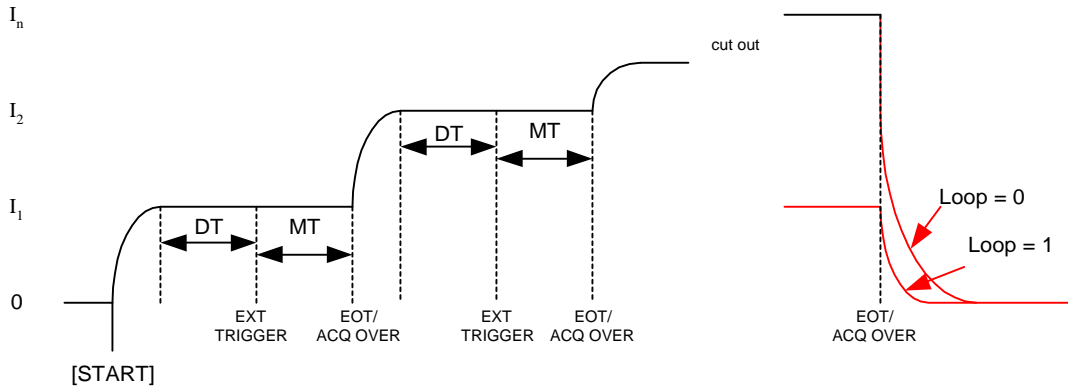

Figure 2-5: Multi-Point Auto Current Output Mode
Figure 2-5 illustrates the Multi-Point Auto Current Mode. Set a longer Delay Time (DT) in MA mode.